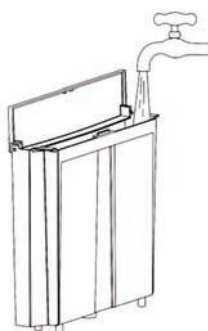

Fig. 2
- Open the cover of the water tank (1) and fill it up with fresh, cool water (Fig. 2). Do not exceed the maximum (MAX) level.
- Place the tank (1) in its place and press it.
- Close the cover of the tank (1).